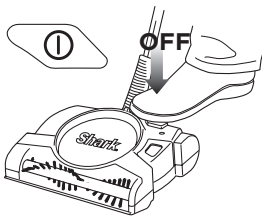

Fig. 2
- 1 Always make sure that the unit is turned off. (Fig. 2)